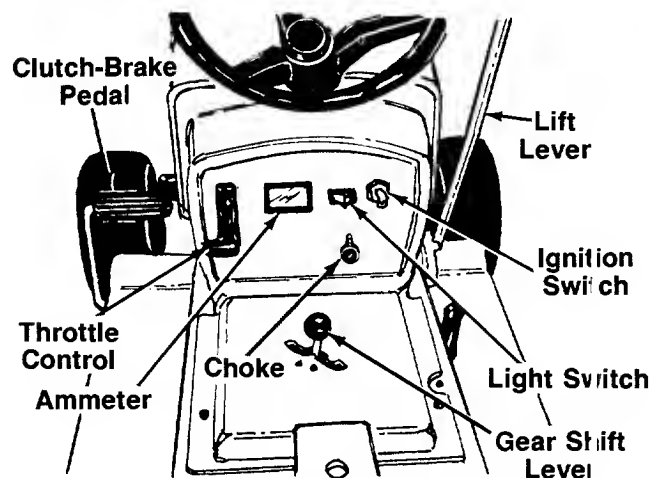

FIGURE 9.—Models 704 and 714 Shown
The throttle control is used to regulate the engine speed. To get maximum efficiency from cutting, the throttle should be in the FAST position when operating the mower. See figure 9.
The choke control is located on the dashboard and is operated manually. Details for the choke operation are covered in the separate engine manual packed with your unit. See figure 9.
The shift lever is located IN THE CENTER on the left side of the console and has three positions, FORWARD, NEUTRAL and REVERSE. See figure 9. The clutch-brake pedal must be depressed and the lawn tractor must not be moving when shifting gears. Do not force the shift lever. Release the clutch-brake pedal slightly to line up the shifting collar in the transmission. Then try to shift gears.
Turn the key to the START position to start the engine. When the engine is running, let the key return to the ON position. To stop the engine, turn the key to the left to the OFF position and remove it to prevent accidental starting. See figure 9.
Push the light switch to turn on the lights. The lights will only operate when the engine is running. See figure 9.
The ammeter registers the rate of battery charge or discharge. The ammeter will register on the discharging side when starting the engine. It should register on the opposite side (charging) when the engine is running in the fast position until the battery is completely charged. With a fully charged battery or with the engine idling, the ammeter will not show a charge. See figure 9.
The clutch-brake pedal is located on the left side of the lawn tractor. Depressing the clutch-brake pedal part way disengages the clutch. Pressing the pedal all the way down disengages the clutch and engages the disc brake. See figure 9.
4. Set the throttle control in the FAST position. See figure 9.
6. Turn the ignition key to the START position. When the engine is running, let the key return to the ON position. See figure 9.